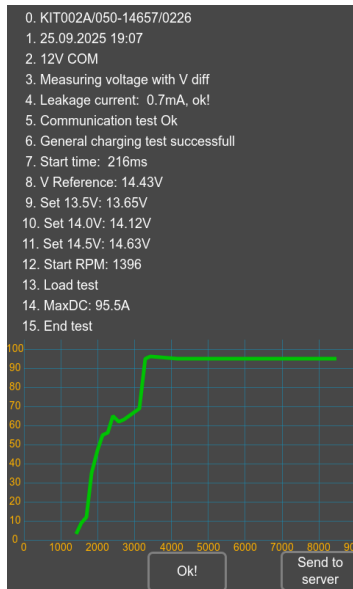

Figure 15
8. After completing all test stages, the bench generates a report and displays it on the screen (see Fig. 15).